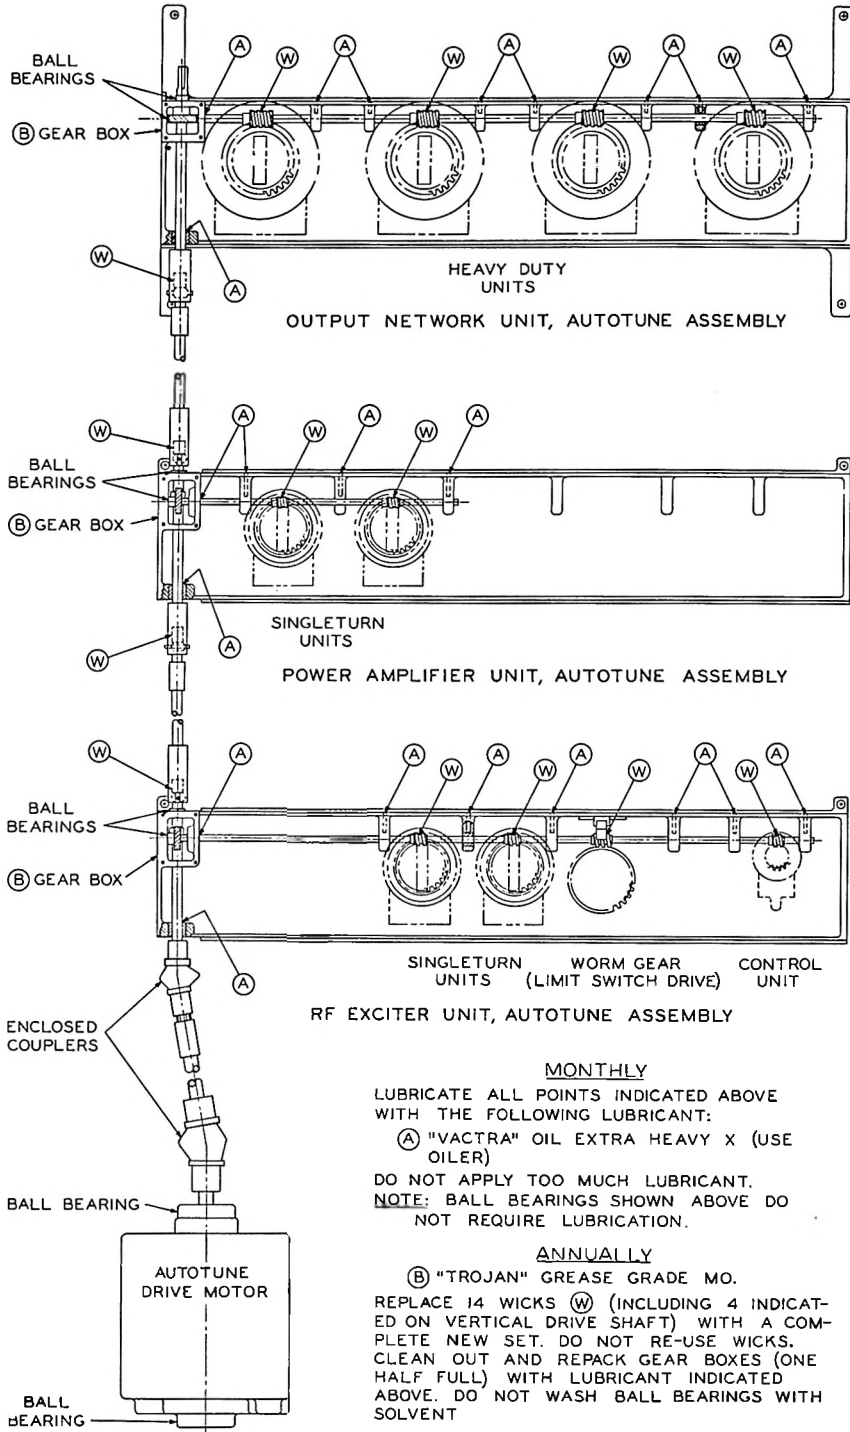

Figure 30. Autotune Lubrication Chart
Grease-impregnated wicks are used to provide proper lubrication in addition to the lubricants listed. These are held in place where necessary by special wick-holder assemblies. (See lubrication chart, figure 30, for exact locations.)
2. Refer to figure 30 and lubricate the Autotune singleturn units as designated on these drawings.
3. Lubricate the universal coupler on the tap switch shaft in the r-f exciter unit and the two (2) universal couplers on the power amplifier unit with Vactra Oil.
4. Apply one or two drops of Vactra Oil to the four (4) tuning capacitor bearings in the r-f exciter unit, the two (2) tuning capacitor bearings in the power amplifier unit, the three (3) ball bearings at the rear of the output network unit, and the two (2) ball bearings of the center capacitor in this unit.
5. Apply one or two drops of Vactra Oil to each of the three (3) selector tap switch bearings in the r-f exciter unit and to each of the two selector tap switch bearings in the power amplifier unit.
4. Replace 14 wicks (including 4 in vertical drive shafts) with a complete new set. DO NOT RE-USE WICKS. Refer to figure 30.